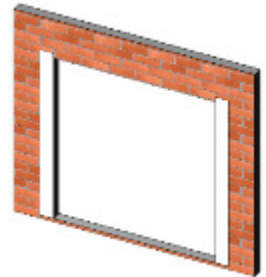

Figure 23:
2. At each jamb, embed the flashing paper into the sealant onto mounting flange and fasten into place. The flashing paper should be cut sufficiently long enough to extend at least 3" past the weep-screed or diado flashing and at least 6 inches above the head of the window (Figure 23).